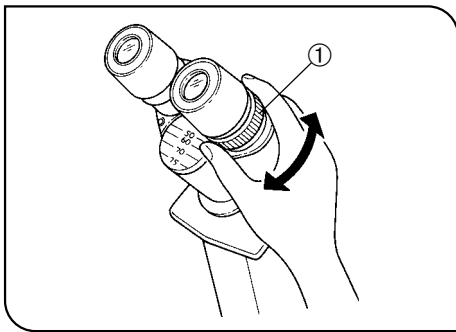

Fig. 25
(Figs. 25 & 26)
2. While looking through the right eyepiece with your right eye, turn only the diopter adjustment ring ① to focus on the specimen. (Fig. 25)